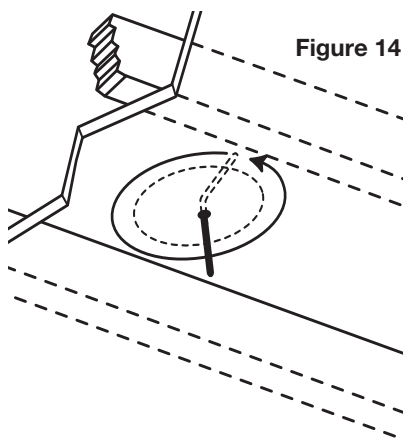

Figure 14
3. Cut a foot-long piece of coat hanger. Bend the wire (creating a right angle) leaving 5-3/4" this allows for the extra width of the mounting dogs). Poke the "L-shaped" wire into the pilot hole and turn it in a complete circle and move it into the ceiling cavity to make sure you have approximately 6" of depth. If the wires movement is obstructed by anything, fill the hole(s) with spackle and try another location. **(See Figure 14)**